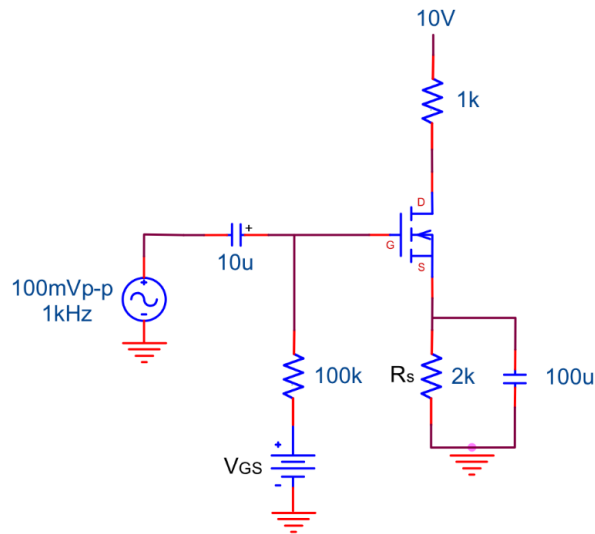

Figure 10.2
1. Measure the g_m of your two devices using the circuit in Figure 10.2 and the following procedure.